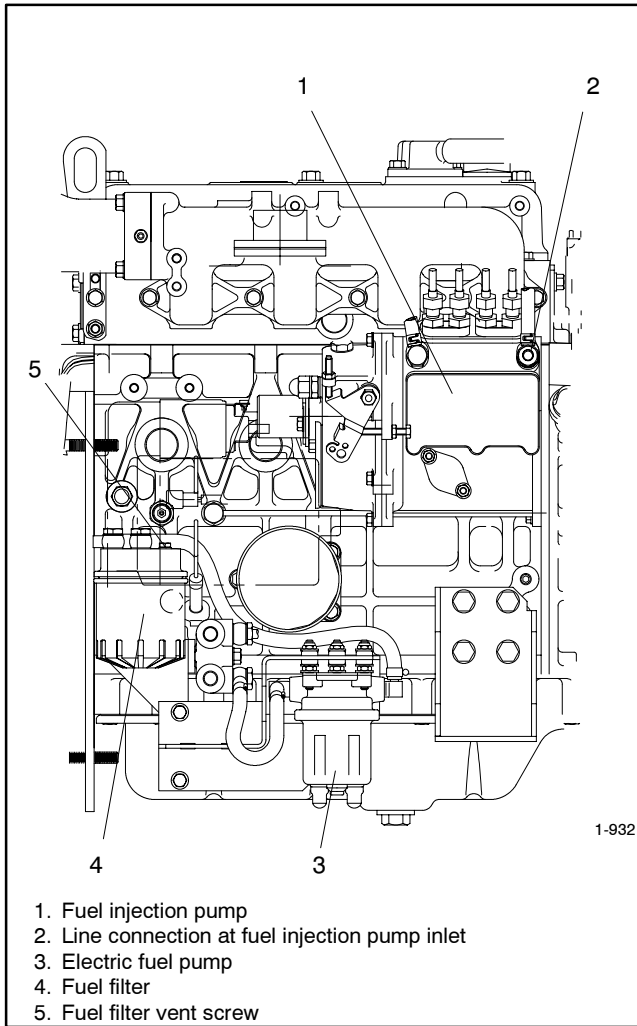

Figure 3-6 Bleeding the Fuel System, Typical
2. Loosen the fuel filter vent screw. See Figure 3-6.